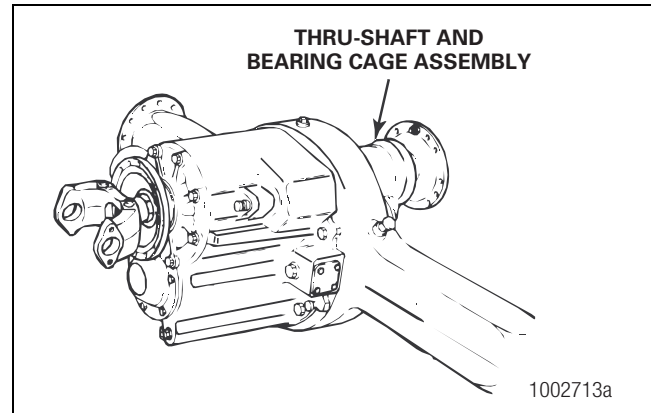

Figure 3.8
6. Pull the bearing cage, bearings and shaft assembly from the axle housing. If necessary, loosen the cage from the housing with a soft mallet. Figure 3.8.